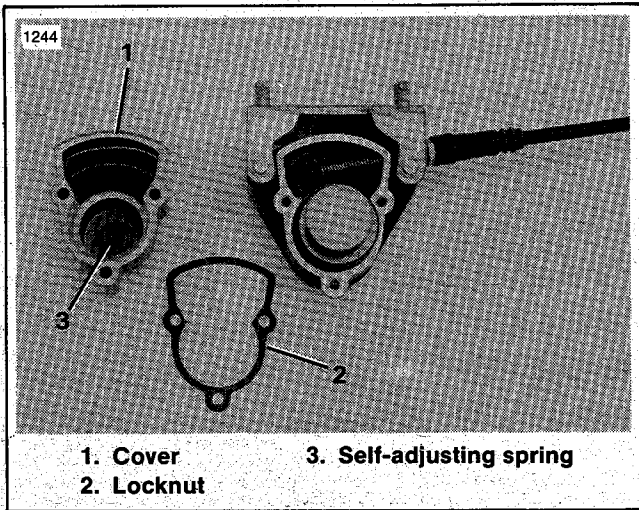

Figure 2-14. Remove Cover
- Remove cover (1, Figure 2-14) and cover gasket (2, Figure 2-14). Self-adjuster spring (3, Figure 2-14) will stay in cover.